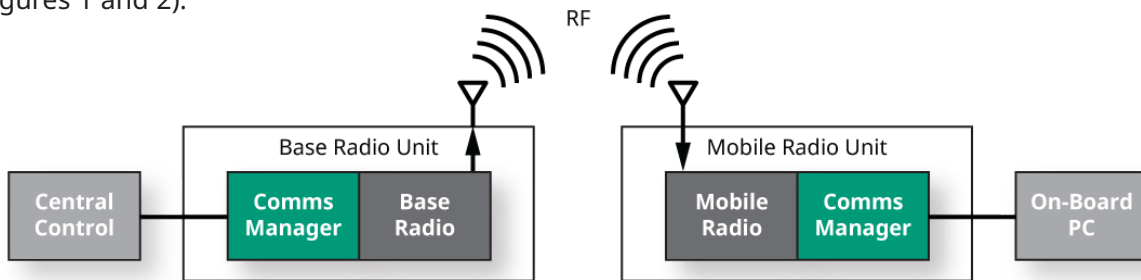

Figure 1: PTC ACSES Communications Block Diagram
- The mobile communications manager converts the STFP bit-stream into ACSES messages and performs two functions: it sends back a response message to the base radio unit as needed as well as informs the on-board PC to actuate appropriate train action in response to the ACSES message (Figures 1 and 2).